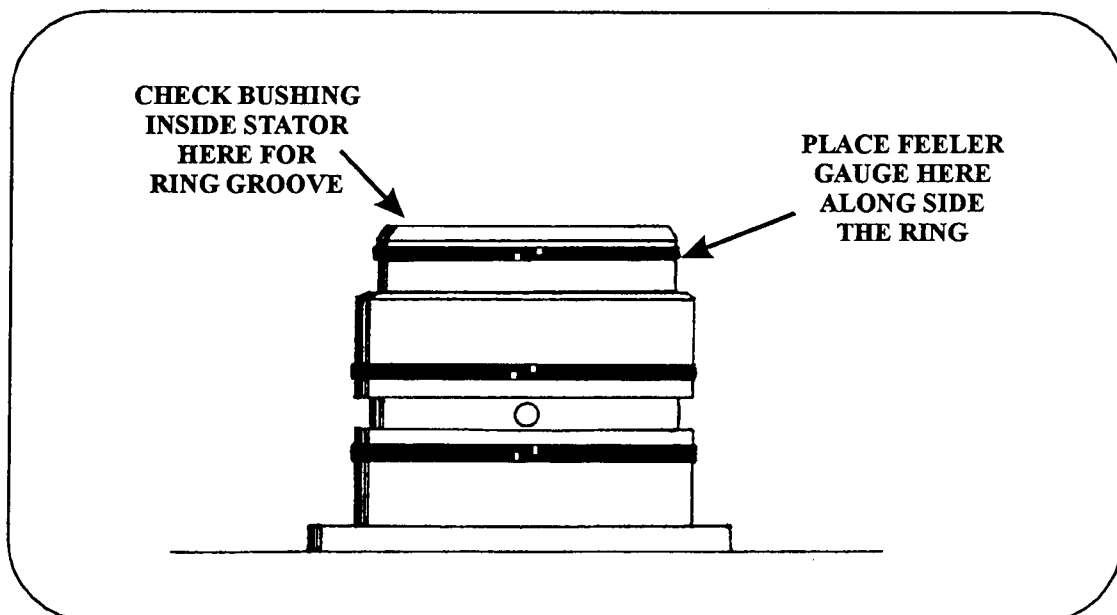

Figure 19
**CAUSE:** One cause may be that the top sealing ring on the stator may have machined its groove wider causing a leak in the forward clutch circuit. The widening of the groove by the sealing ring is done so well that it may be overlooked during overhaul. Another cause may be the bushing in the stator having a ring groove cut into it by the turbine shaft sealing ring. This will also cause a forward clutch leak (See Figure 19).
**CORRECTION:** If a .040" or greater feeler gauge can fit into the groove along side the sealing ring, the stator will need to be replaced (See Figure 19). If the sealing ring groove is good and the bushing is bad, the bushing is serviced separately by aftermarket companies. Refer to your local supplier.